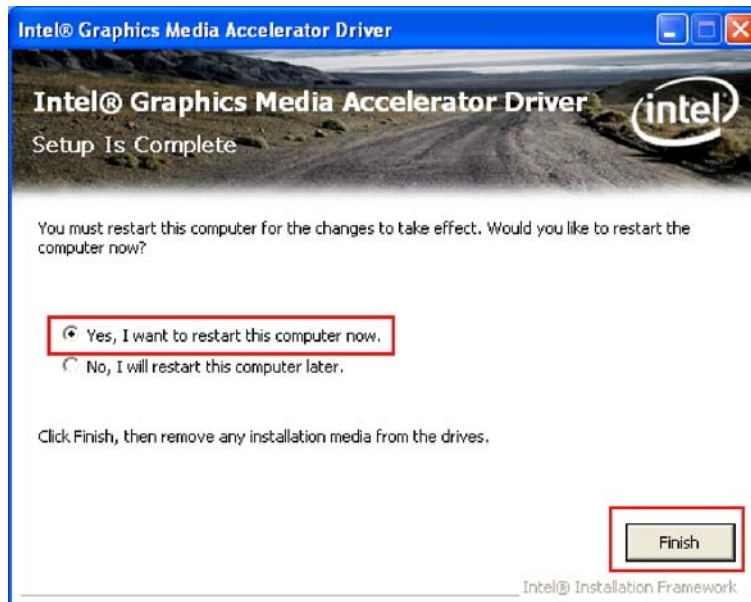

Figure 7-15: Intel® Graphics Media Accelerator Installation Complete
Step 10: After the driver installation process is complete, a confirmation screen appears (Figure 7-15).